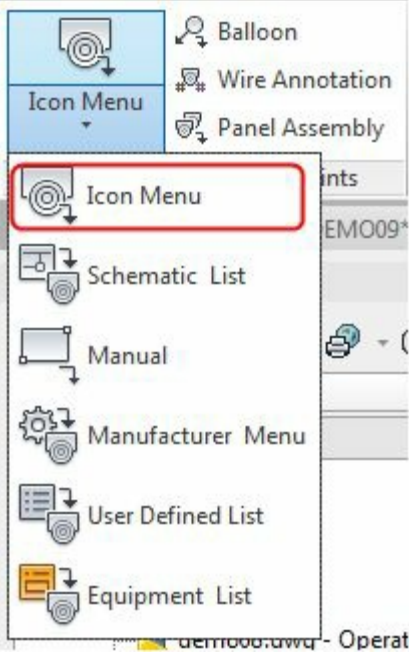
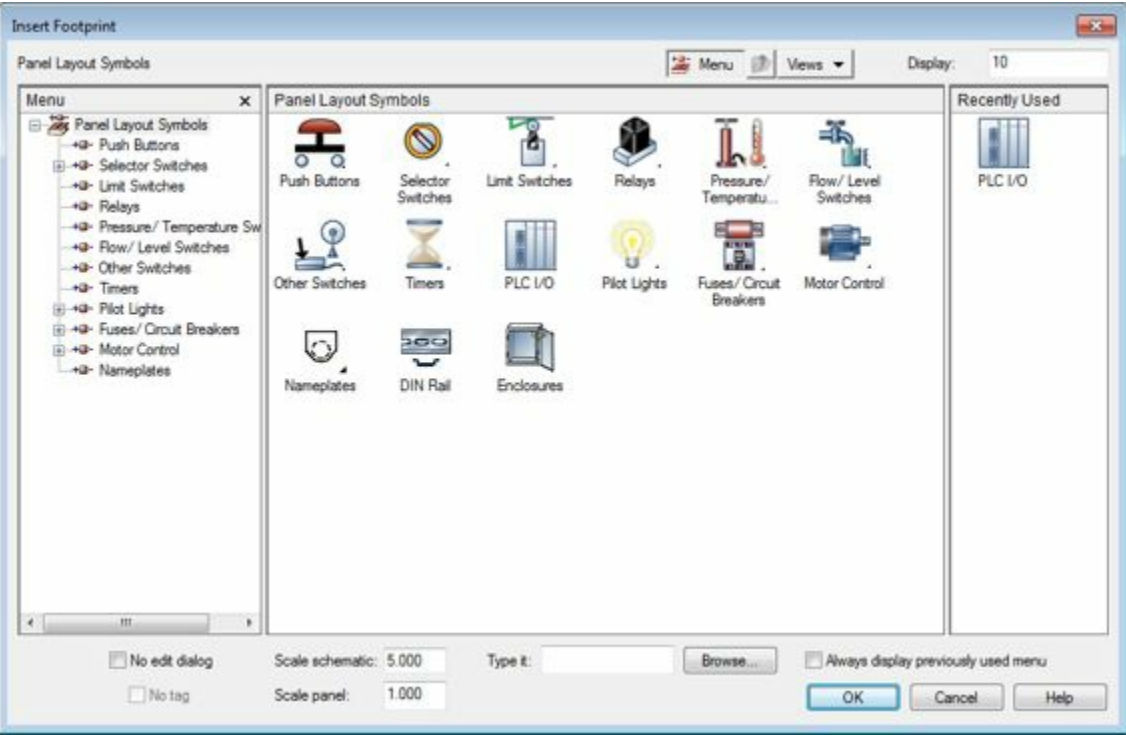

Figure-4. Icon Menu tool
Figure-5. Insert Footprint dialog box
- Click on the **Icon Menu** tool from the **Insert Component Footprints** drop-down in the **Insert Components Footprints** panel in the **Panel** tab of the **Ribbon**; refer to Figure-4. The Insert Footprint dialog box will be displayed; refer to Figure-5.